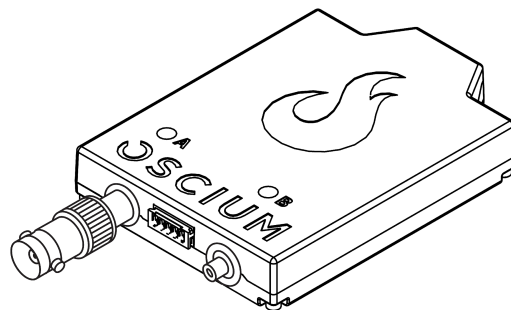

Figure 2. Use the BNC adaptor on Chanel A analog input to connect the iMSO-204x to your signal generator.
2. Connect the BNC to SMB adaptor to Chanel A on the iMSO-204x (Figure 2).